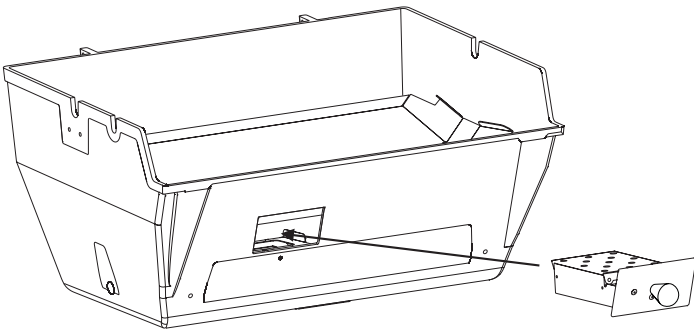

Figure 17
- Slide the smoker box through the opening in the grill body. See Figure 17.